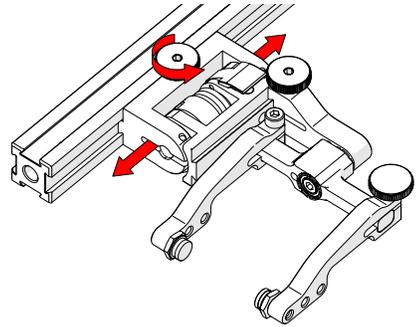

Fig. 149 - Adjust on frame bar
2. Use the probe holder adjustment knob to position the probe holder along the frame bar (Fig. 149).